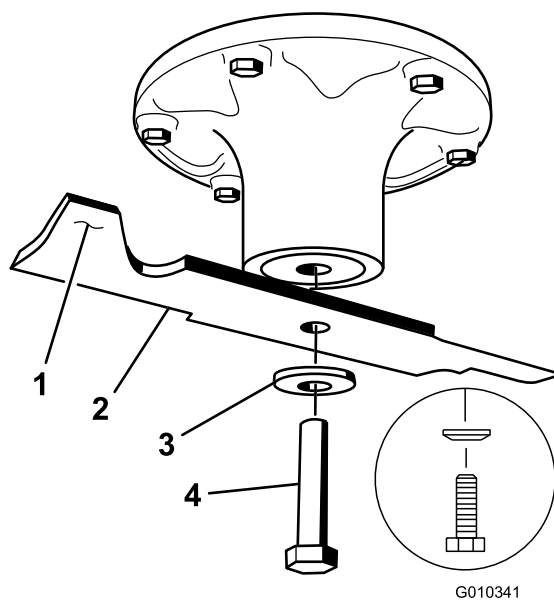

Figure 75
2. Remove the blade bolt, curved washer, and blade from the spindle shaft (Figure 75).